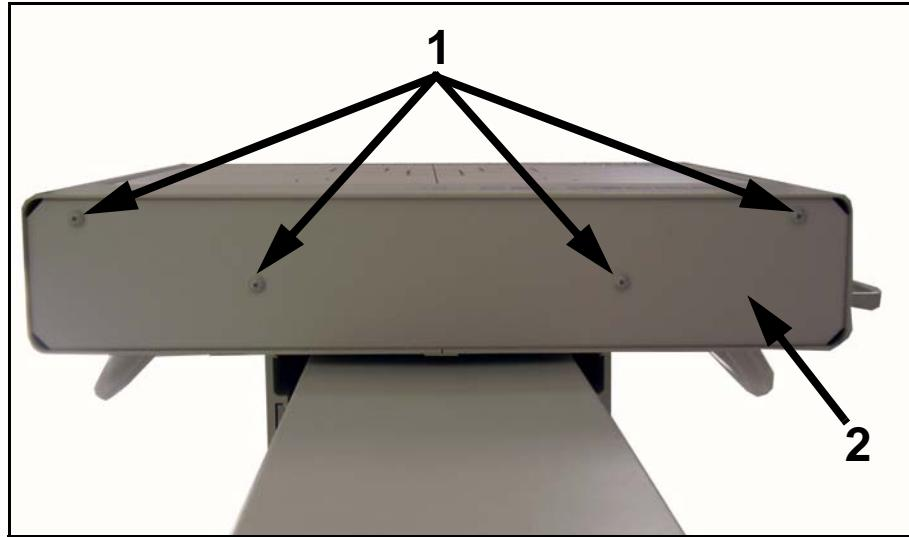

Figure 5-4. Bottom Cover Screws
- 6 Unscrew four bottom cover screws (1 in Figure 5-4) and remove bottom cover (2).